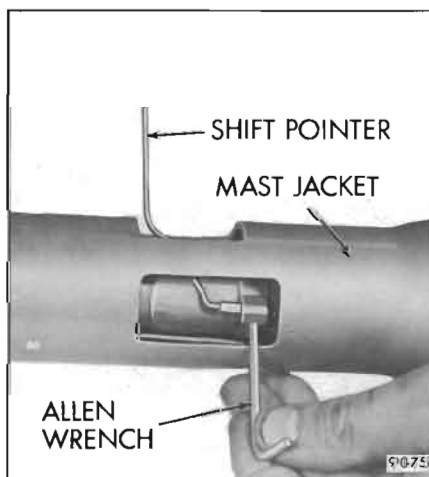

Figure 90-75—Removing Shift Indicator (43-44000 Series)
6. On 43-44000 series loosen set screw holding shift pointer to shift tube and slide out pointer. See Figure 90-75. On 45-46-48000 series remove shift indicator screw and lever from shift tube.